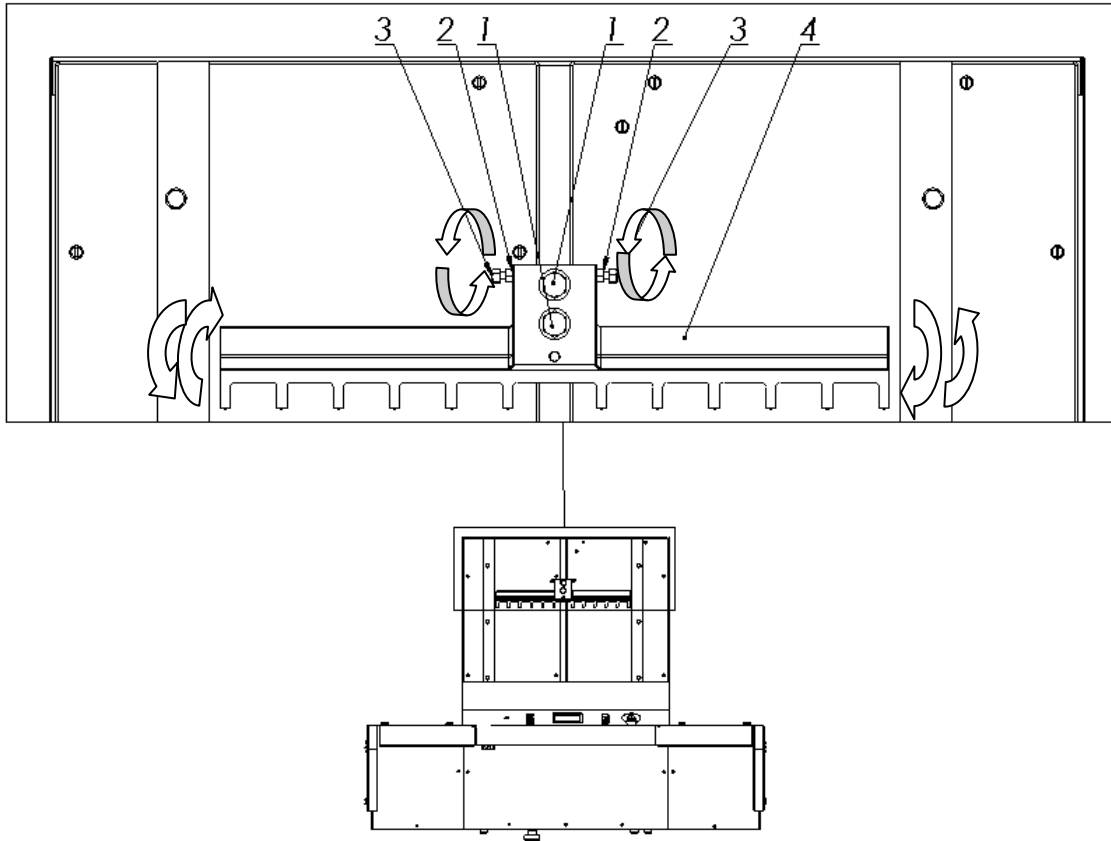

Figure 41. Adjusting elements of back gauge
8.4.3 loosen the screws 1 (fig.41)
8.4.4 loosen the nuts 2 (fig.41)
8.4.5 by turning the screws 3, place the approaching beam 4 (Fig. 41) at the right angle
8.4.6 lock the adjustment screws with 3 nuts 2 (fig.41)
8.4.7 firmly tighten the screws 1 (fig.41)